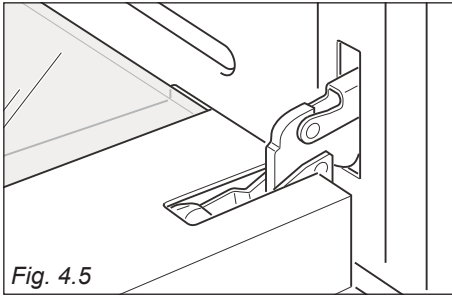

Fig. 4.5
- Open the door to the full extent (fig. 4.5).